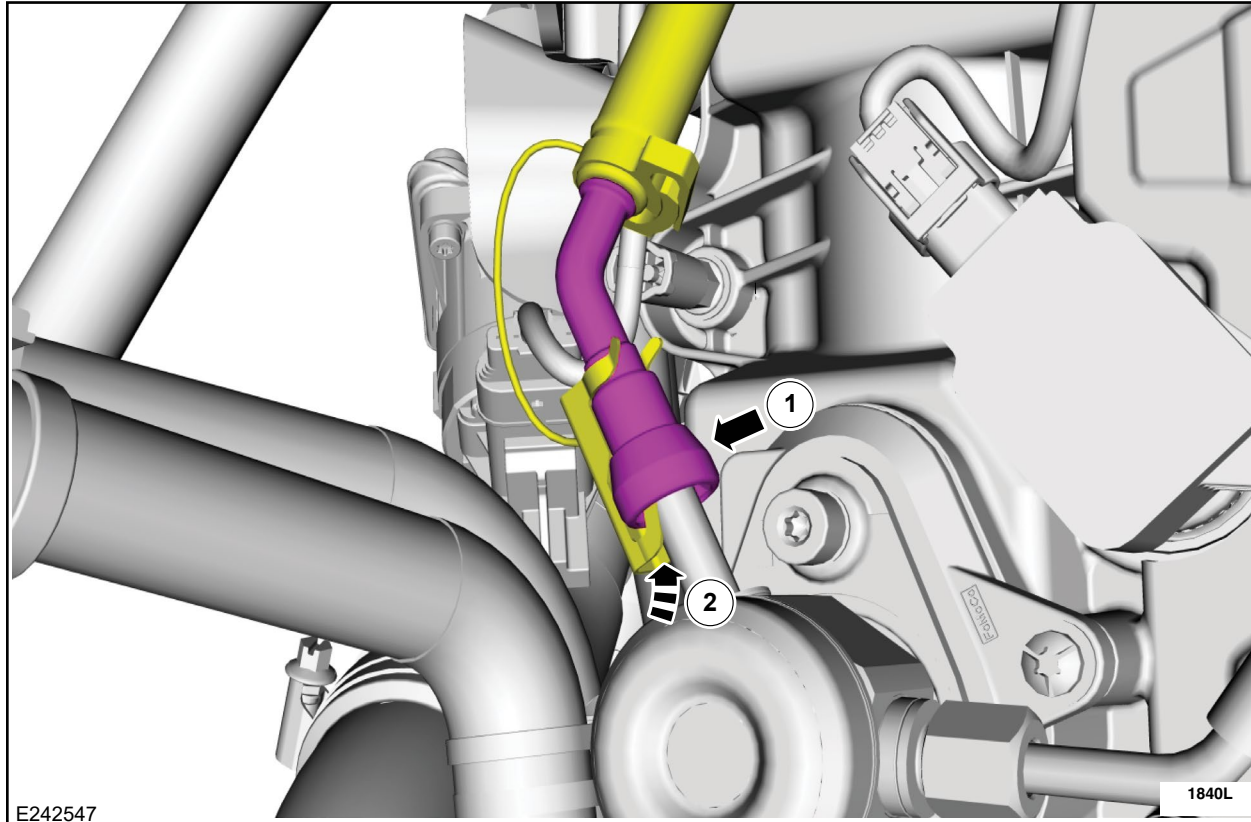

FIGURE 11
See Figure 11.
17. Install the secondary latch. See Figure 11.